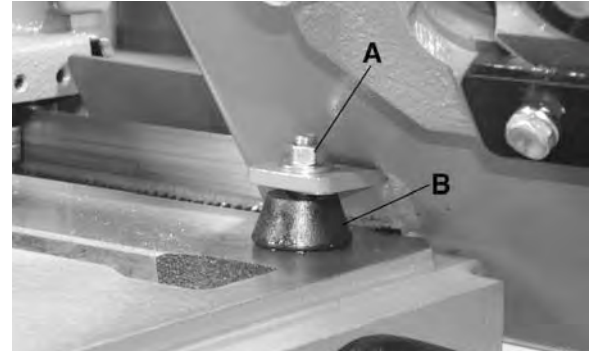

FIGURE 3
When the saw arm is in the extreme downward position, the teeth of the blade should be 1/16" below the table surface. If an adjustment is necessary, loosen the hex. nut (A) Fig.3, and turn the rubber stop (B) in or out until the correct adjustment is made. Then retighten hex. nut (A).